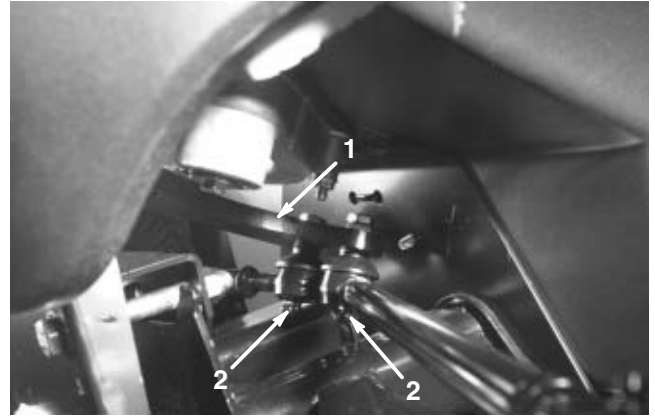
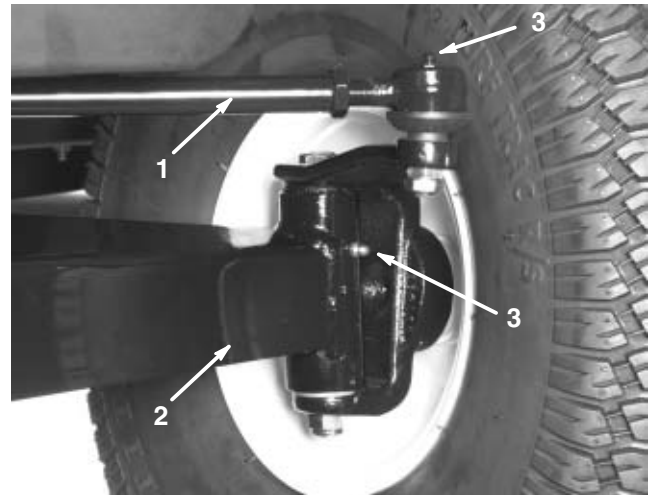

Figure 3
Figure 4
1. Each tie rod has a grease fitting on each ball joint, the one that secures the tie rod to the Pitman arm (Fig 3) and the joint that secures the tie rod to the front wheel spindle (Fig 4).
2. The A-arm has a grease fitting for the king pin (Fig 4).